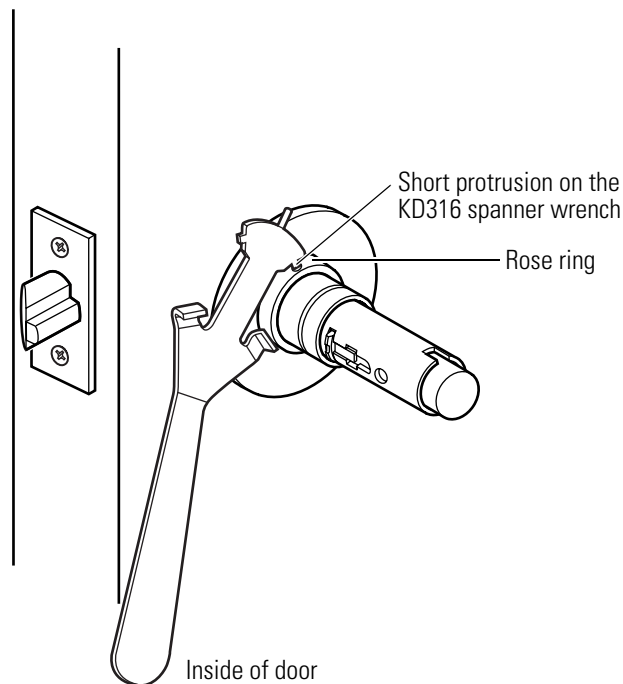

Figure 3.7 Removing the inside rose ring with the KD316 spanner wrench
2. Insert the short protrusion on the KD316 spanner wrench into the hole on the rose ring and rotate it until you can remove the rose ring, as shown in Figure 3.7.